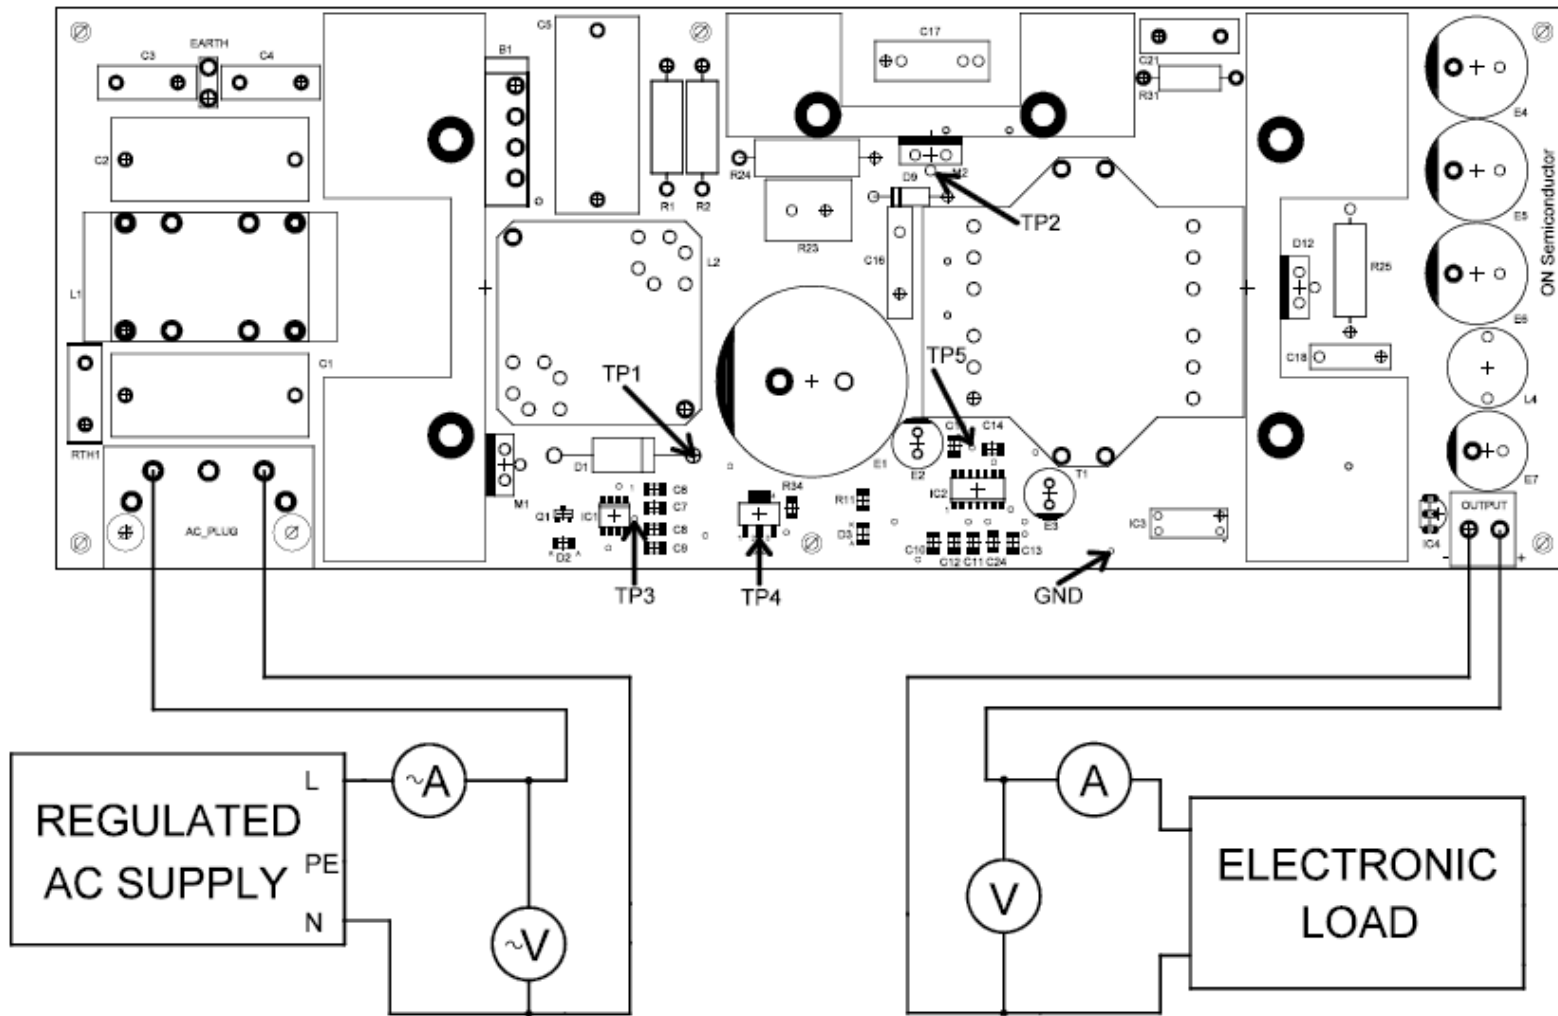

Figure 3: Connection of the evaluation board under testing
2. Connect the demo board to the AC supply and electronic load (Figure 3).
3. Set the input voltage to 85 VAC/ 60 Hz and electronic load to 0 A, switch ON the AC supply output. Using a digital multimeter check the voltages between these test points (Figure 3):